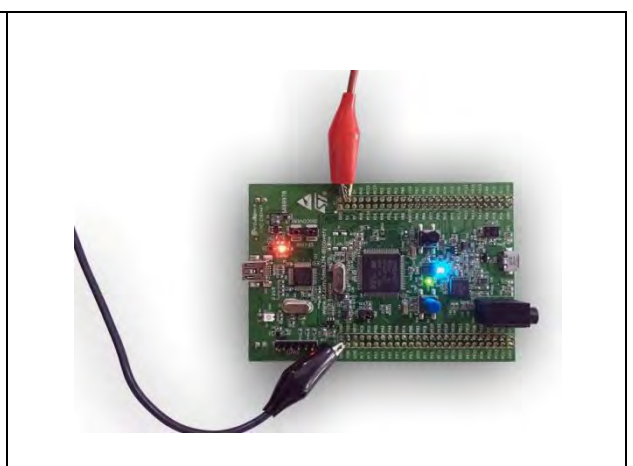

Figure 33: Connecting the Power Cables to the Circuit - Energizing (Step 2)
2. The Power Cable is connected to the electronic circuit power supply. Red Cable (+), Black Cable (-). (Figure 33)
Note: In the IR Temperature Test, the electronic circuit board may also be energized by clicking the "Power On" Button. (Figure 33)